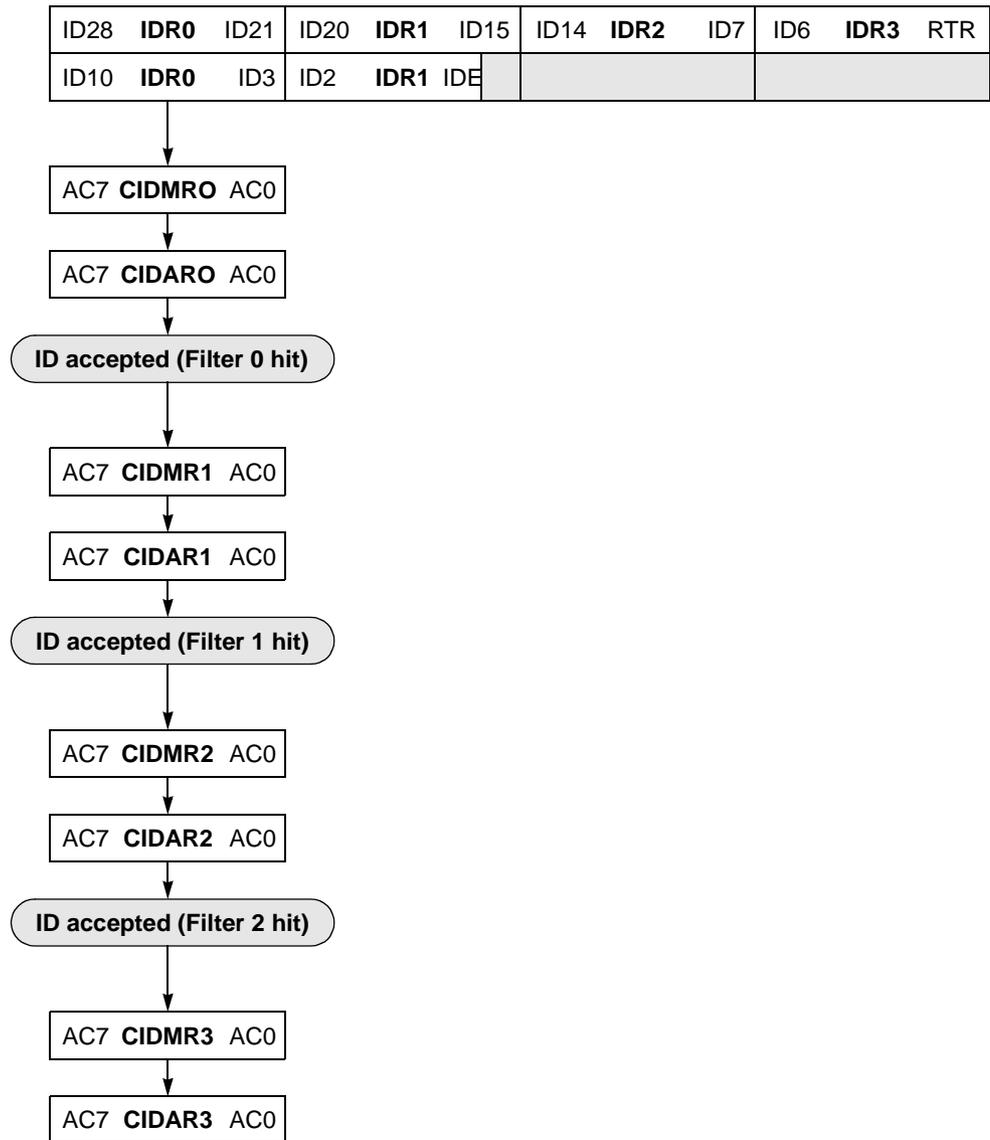

Figure 46 8-bit Maskable Acceptance Filters
- Eight identifier acceptance filters, each to be applied to the first 8 bits of the identifier. This mode implements eight independent filters for the first 8 bits of a CAN 2.0A/B compliant standard identifier or of a CAN 2.0B compliant extended identifier. Figure 46 shows how the first 32-bit filter bank (CIDAR0–3, CIDMR0–3) produces filter 0 to 3 hits. Similarly, the second filter bank (CIDAR4–7, CIDMR4–7) produces filter 4 to 7 hits.